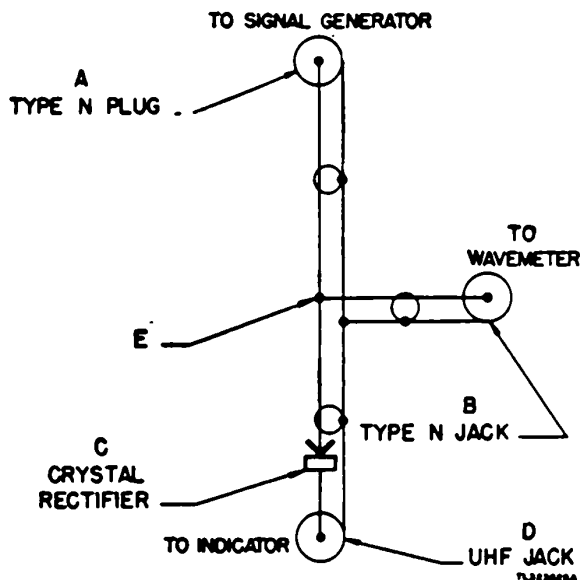

Figure 36. Adapter assembly, schematic diagram
The adapter assembly is made up of standard type-N fittings, a crystal rectifier, and an ultrahigh-frequency (u-h-f) jack. The assembly is essentially a T-section of coaxial line, one leg of which contains a crystal rectifier. Figure 36 shows the equivalent circuit of this arrangement of adapter.
a. When the signal generator is placed in operation with the adapter assembly connected (par. 44d), a fixed amount of power is fed into the type-N plug, A, (fig. 36) of the adapter assembly at the R. F. jack. This power is fed through the coaxial line to the type-N jack, B, and through the coaxial line and crystal rectifier, C, to the u-h-f jack, D. The crystal rectifier converts the r-f pulses into video pulses which can be seen on the test oscilloscope.